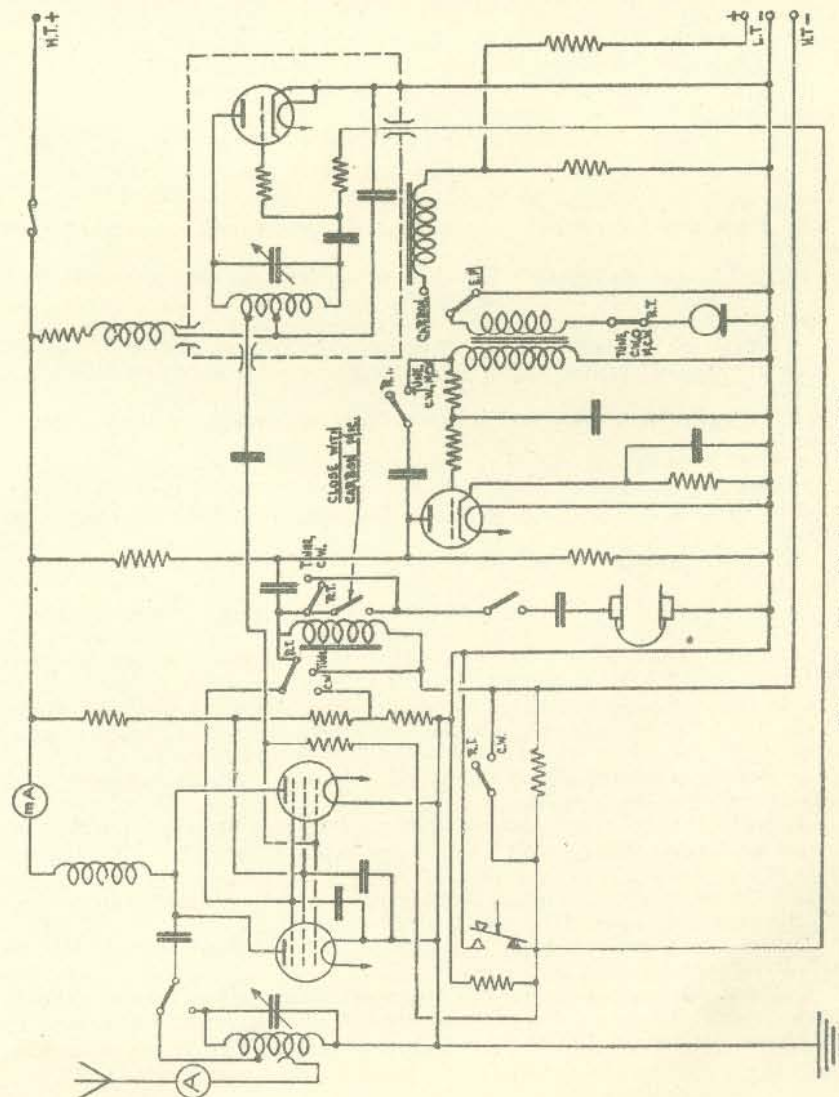

Fig. 83.—Simplified circuit T.1154.
6. *Circuit*.—A simplified circuit is at fig. 83. A Hartley M.O. is capacity-coupled to P.A., which has two pentodes in parallel. Neutralising is unnecessary. The P.A. is parallel-fed, and anode tap is varied automatically with P.A. tuning control. R/T and M.C.W. are obtained by suppressor-grid modulation of the P.A. A.F. voltage for modulation is obtained from the V.T.105 modulator valve, which acts as a 1,200 c.p.s. oscillator on M.C.W. It also oscillates on C.W., the audio note produced providing "side-tone".